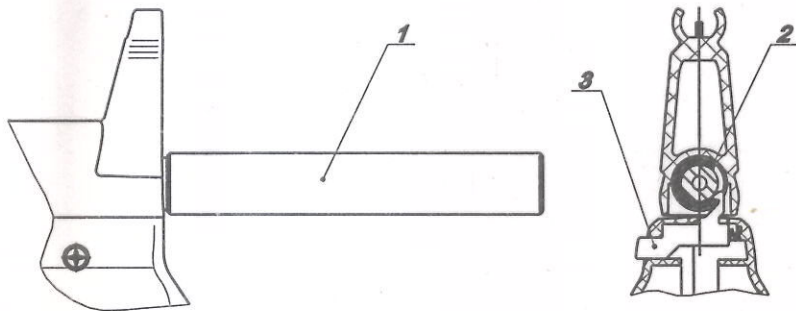

Fig. A.5 Рис. А.5
- If muzzle attachment pos. 1 is loosed:
- turn barrel stop pos. 2 and set it according Fig. A.5, providing its engagement by latch pos. 3;
- tight the muzzle attachment pos. 1.